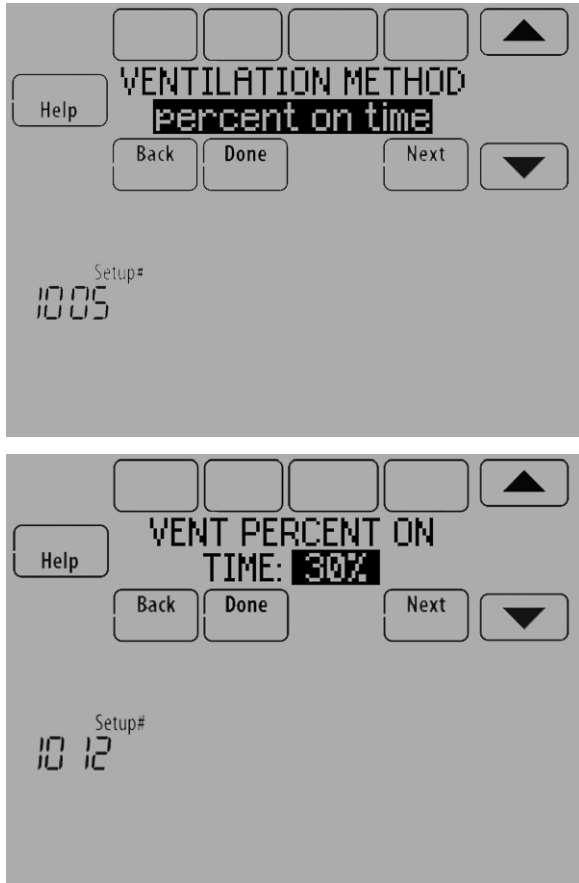

Fig. 164.
- If Percent On Time was selected for ISU 1005, select the Ventilation Percent on Time. See Fig. 164.